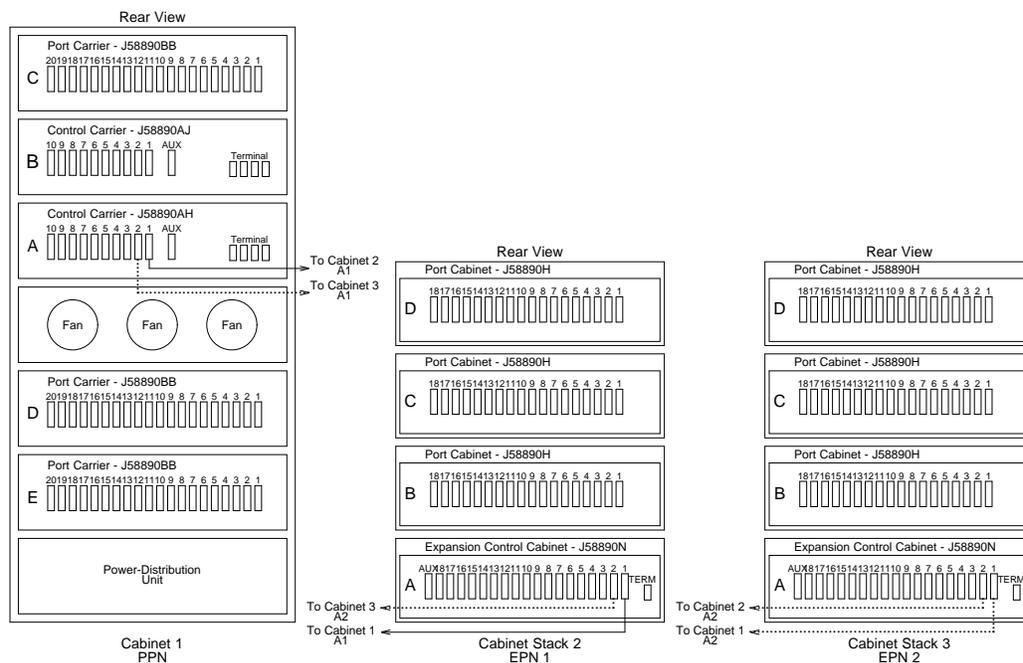
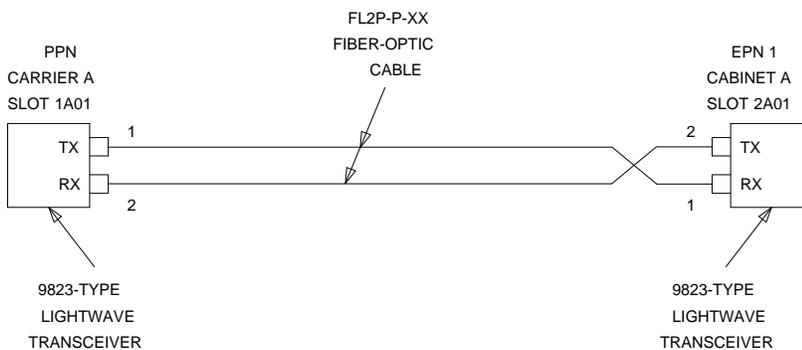
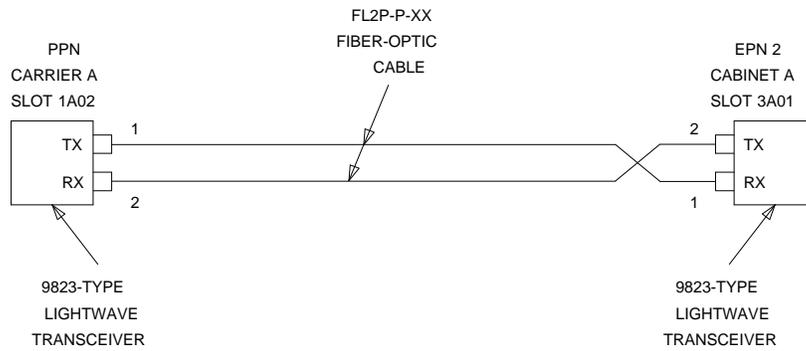
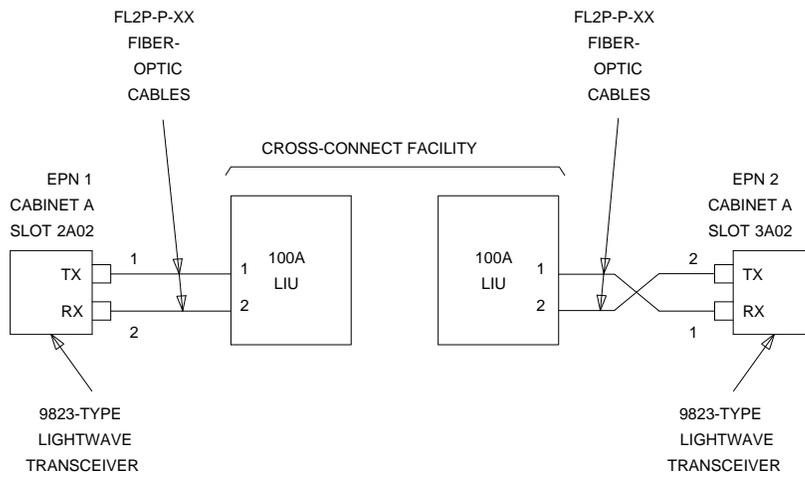

Figure 8-20. High-Reliability G3i V4 with Two or Three Port Networks
Figure 8-21. Fiber-Optic Connections PPN to EPN1
Figure 8-22. Fiber-Optic Connections PPN to EPN2
Figure 8-23. Fiber-Optic Connections EPN1 to EPN2
The connectors on the lightwave transceivers are labeled either “TX” (transmit) or “RX” (receive), while the fibers attached to each connector are numbered either “1” or “2.” A viable fiber connection is only made when both fibers in each cable (that is, “1” and “2”) route from the “TX” connector of a port network to the “RX” connector of its adjacent port network. For an example, refer to Figure 8-21.
1. Behind control carrier A of the multicarrier PPN (see Figure 8-20 on page 8-48, Figure 8-21, Figure 8-22, and Figure 8-23):